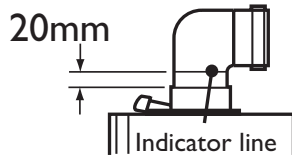
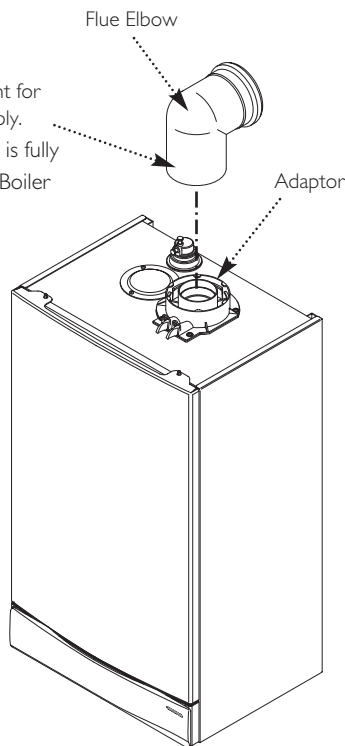

Fig. 39a
Fig. 41
2. Locate the flue elbow on the adaptor at the top of the boiler. Set the elbow to the required orientation (Fig. 41). The elbow is fully engaged when there is a distance of 20mm from the adaptor to the indicator line (Fig. 39a).